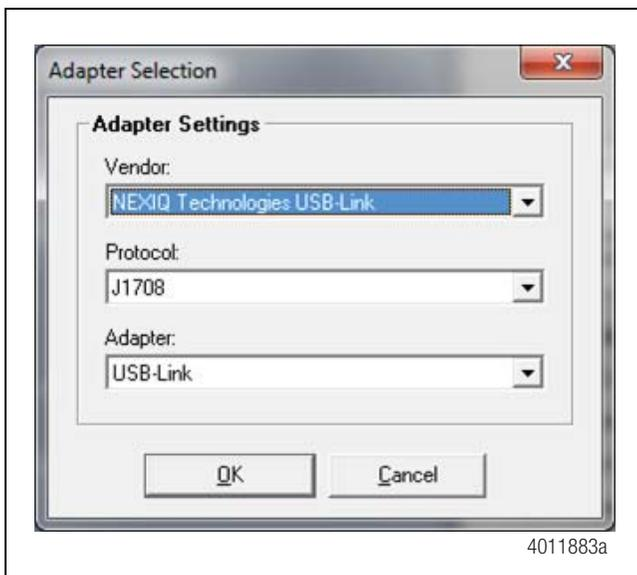

Figure 2
- From the "Vendor" pull-down list, select the device name for your specific diagnostic interface (e.g. NEXIQ or NOREGON). Figure 2.